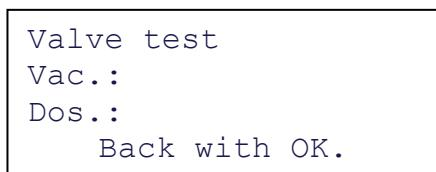

Fig. 11: press the OK key for
8. Press the OK key to access the "Valve test" submenu (see Fig. 11).